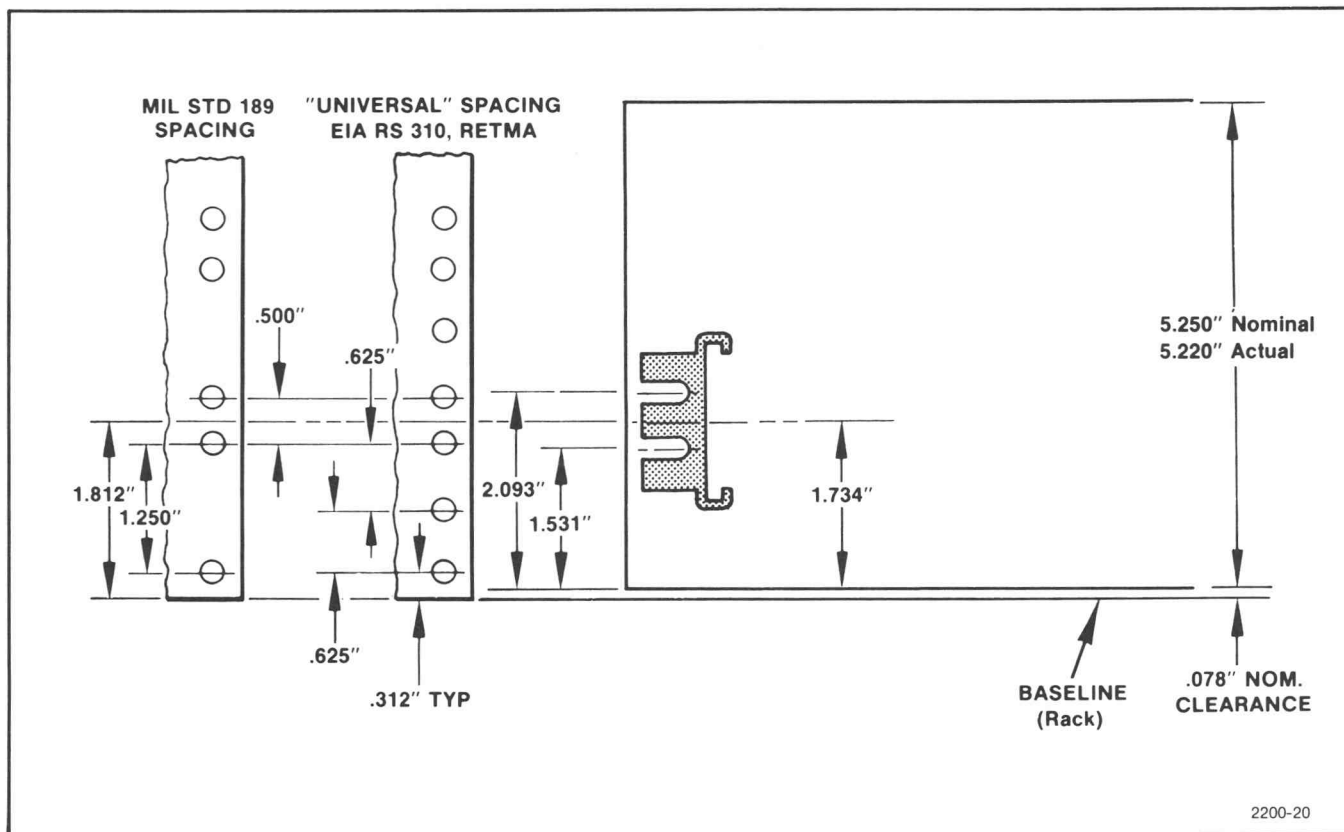

Fig. 2-13. Rackmount Hole Spacing.
**Wiring the REMOTE Connector.** To wire the external REMOTE connector, the connector must first be disassembled. See Fig. 2-13. Back the hold-down screws into the clamps about three turns (enough to clear the connector body plate). Remove the clamps. Separate the connector body and hood. Feed the wires through the neck of the hood and solder to the appropriate pins on the connector body. Fit the hood over the connector body and replace the clamps. Tighten the neck screws on the hood for a firm fit around the wire cable. Attach the assembled connector to the rear-panel REMOTE connector, and screw in the hold-down screws through the clamps and into the rear-panel standoffs.